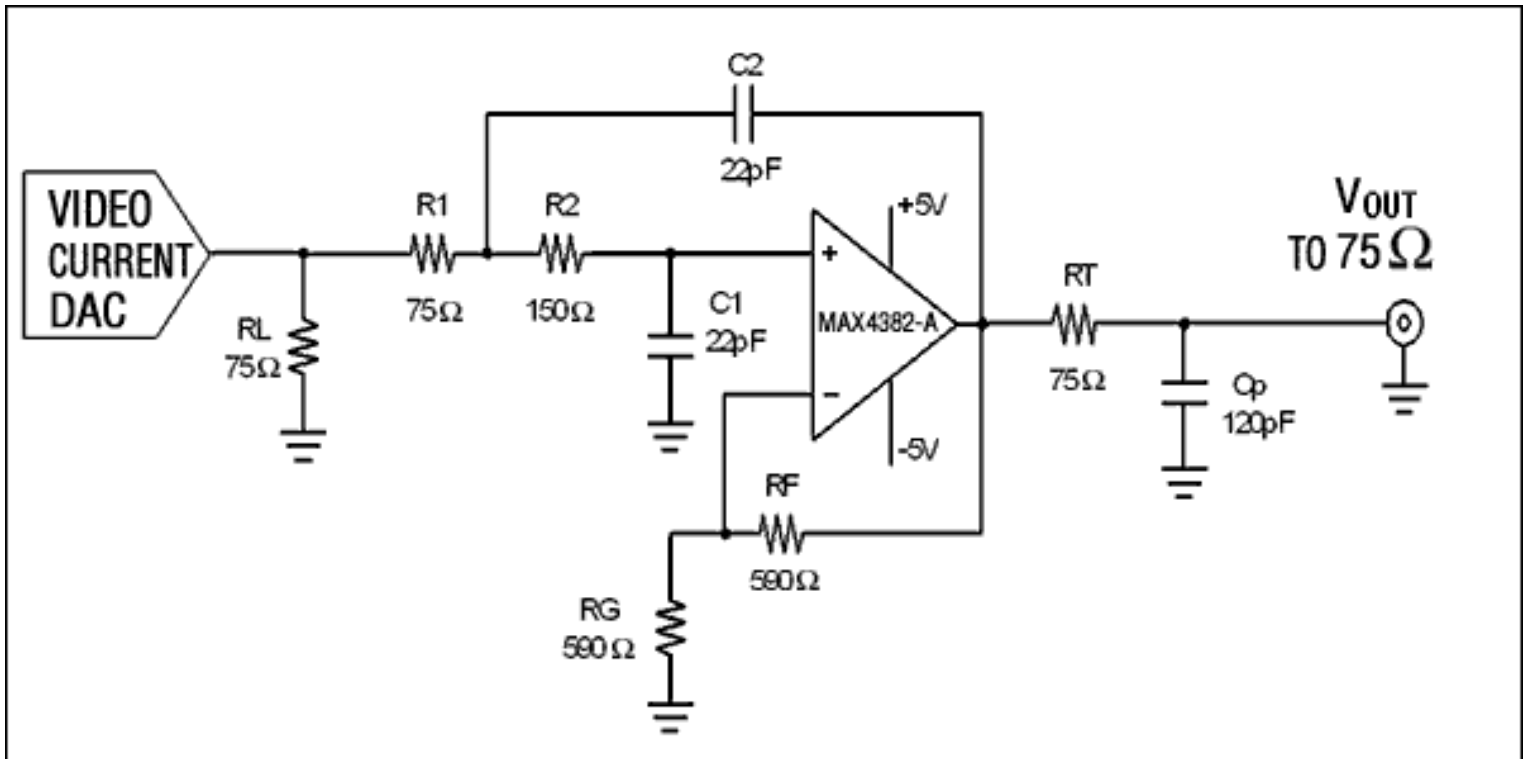
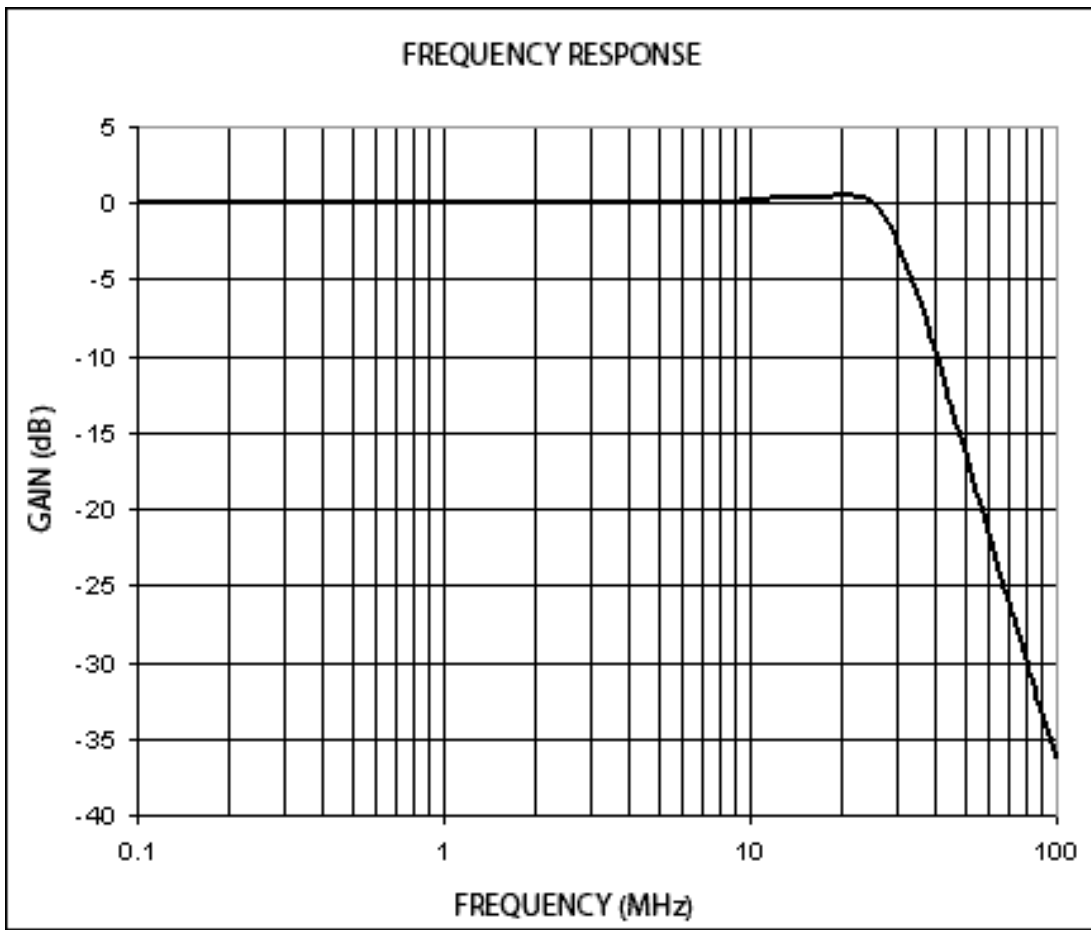
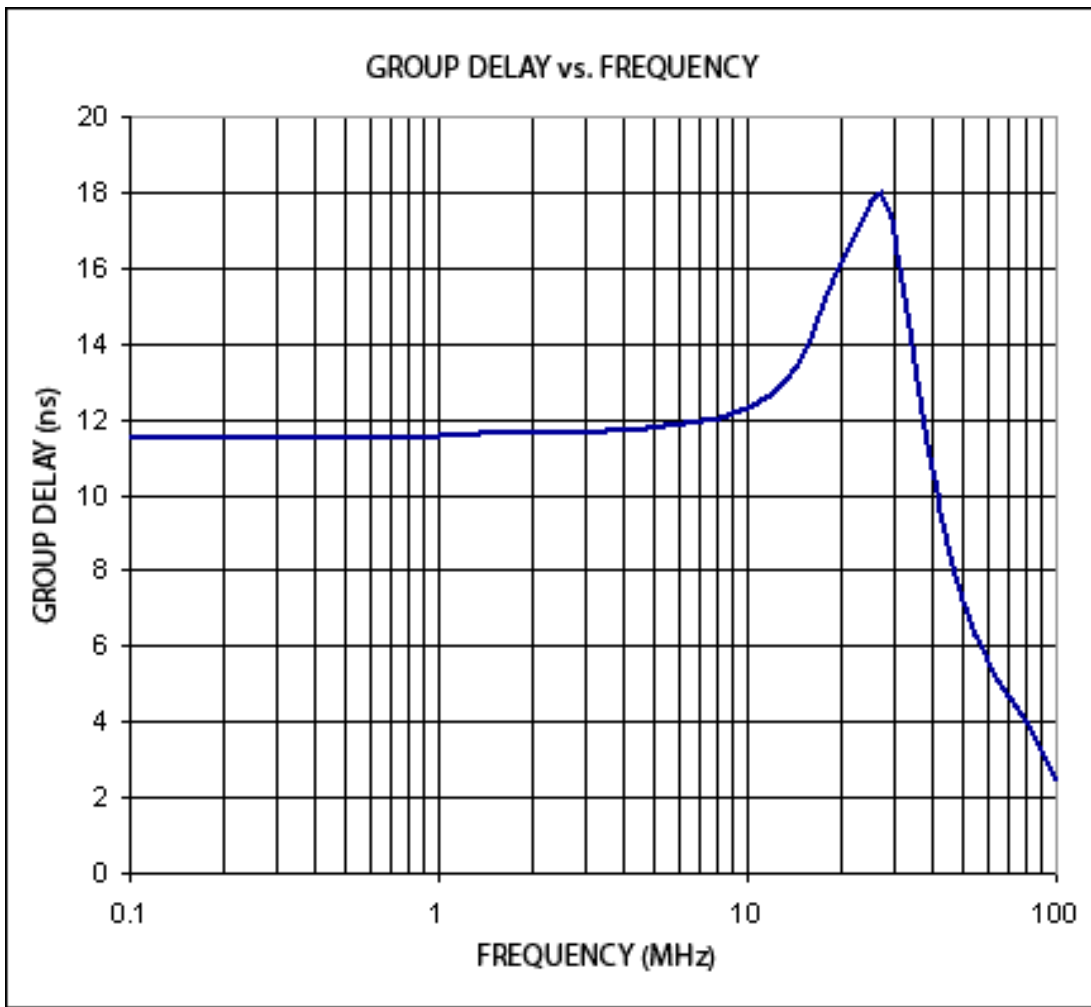

Figure 1. The MAX4382 in a three-pole, sallen-key, butterworth lowpass filter.
Figure 2. Gain vs. frequency of the circuit.
Figure 3. Group delay vs. frequency of the circuit.
Figure 1 shows a one-channel, dual-supply configuration incorporating the MAX4382. It is a three-pole, Sallen-Key Butterworth lowpass filter, in which the current DAC generates the video signal, and the resistor (RL) sets the amplitude. With the MAX4382, the RL, R1, R2, C1, and C2 form a two-pole, Sallen-Key lowpass filter having a gain of 2. The driving load (75Ω) at the output, plus RT and Cp, sets the real pole. In the Figure 1 circuit, the -3dB bandwidth is about 30MHz (**Figure 2**). The attenuation is approximately 14dB at 44.25MHz, and 28dB at 74.25MHz. The group delay is roughly 6.5ns (**Figure 3**). If the current DAC load is different than 75Ω, just use the following relationship to set the value of R1: $R1 + RL = 150\Omega$. For RL greater than 150Ω, C1, C2, R1, and R2 will need to be adjusted.